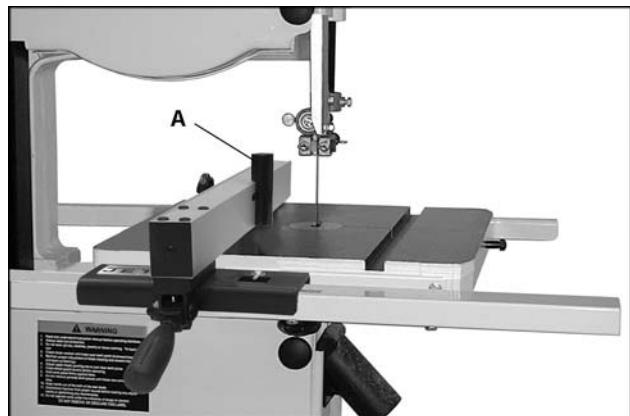

Fig. 8
- For resaw operations attach the post (A, Fig. 8) to fence with the hand knob. There is a slotted hole in the fence that will accommodate the resaw kit. Position the post so that it is centered with the front edge of the blade.